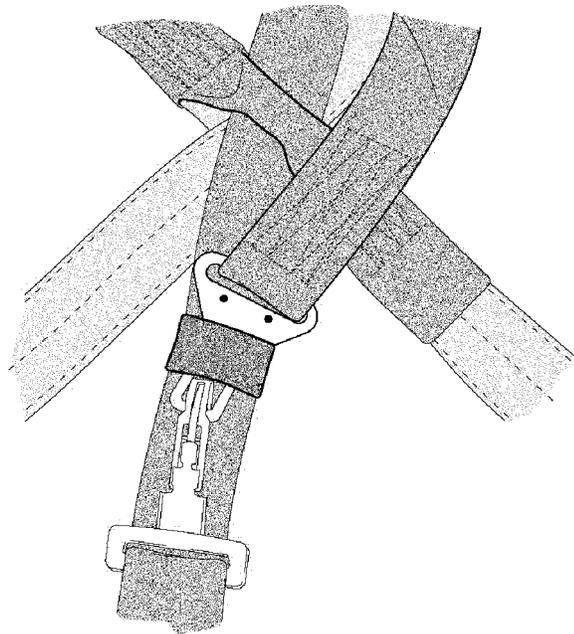

Figure 7. Safety Strap Routing
- e. Apply one drop of sealing compound, to first three threads of screw pin. Insert screw pin thru prongs and roller sleeve; tighten screw pin. (QA)
a. Route the quick ejector end of the safety strap through the loop at the junction of the back strap (Figure 7).